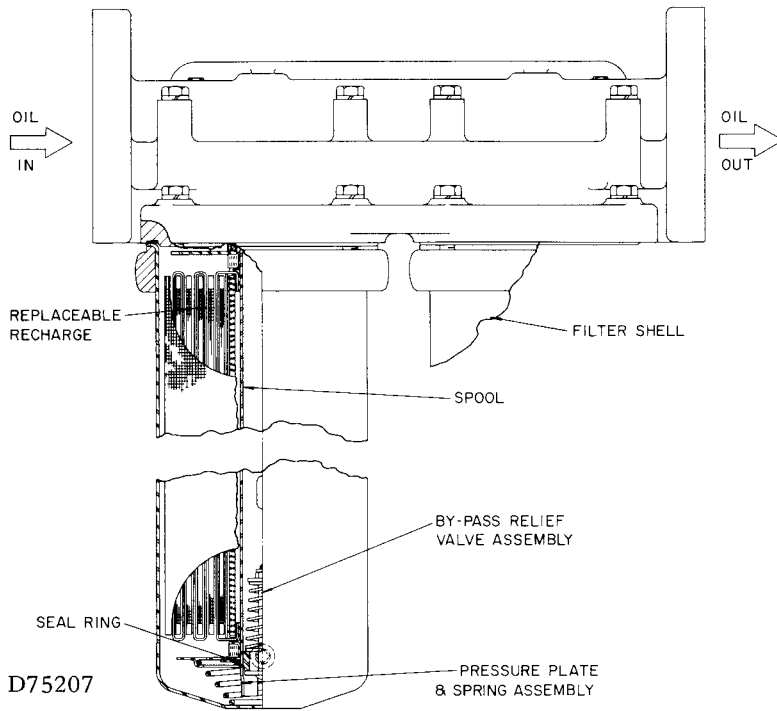

FIGURE 5-5. — COMPRESSOR OIL FILTER
**COMPRESSOR OIL FILTER** (Figure 5-5) uses four single element filters connected in parallel and is a vital part in maintaining a trouble-free compressor, since it removes dirt and abrasives from the circulated oil. The filter is a replaceable cloth bag element type and is equipped with a relief valve that opens in the event the element becomes dirty enough to block the flow of oil. *Elements must be replaced every 1000 hours*, or when the pressure drop is 15 PSI. More frequent changes improve the system’s reliability and are recommended.